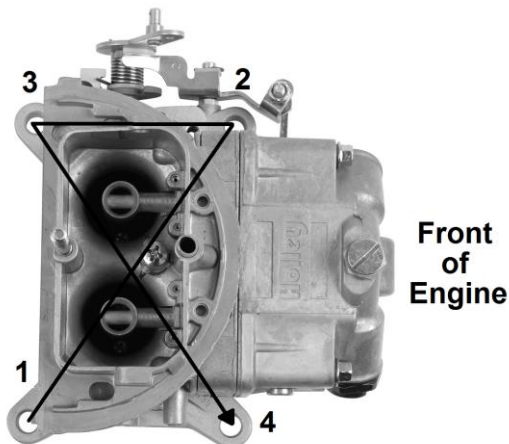

Figure 1 - Carburetor torque sequence
- Place the carburetor on top of the flange gasket on the manifold. If installing all three carburetors at this time, install the center carburetor and then the two outboard carburetors. Install the hold down nuts and snug down progressively in a “crisscross” pattern (60-80 in./lbs.), as shown in Figure 1.